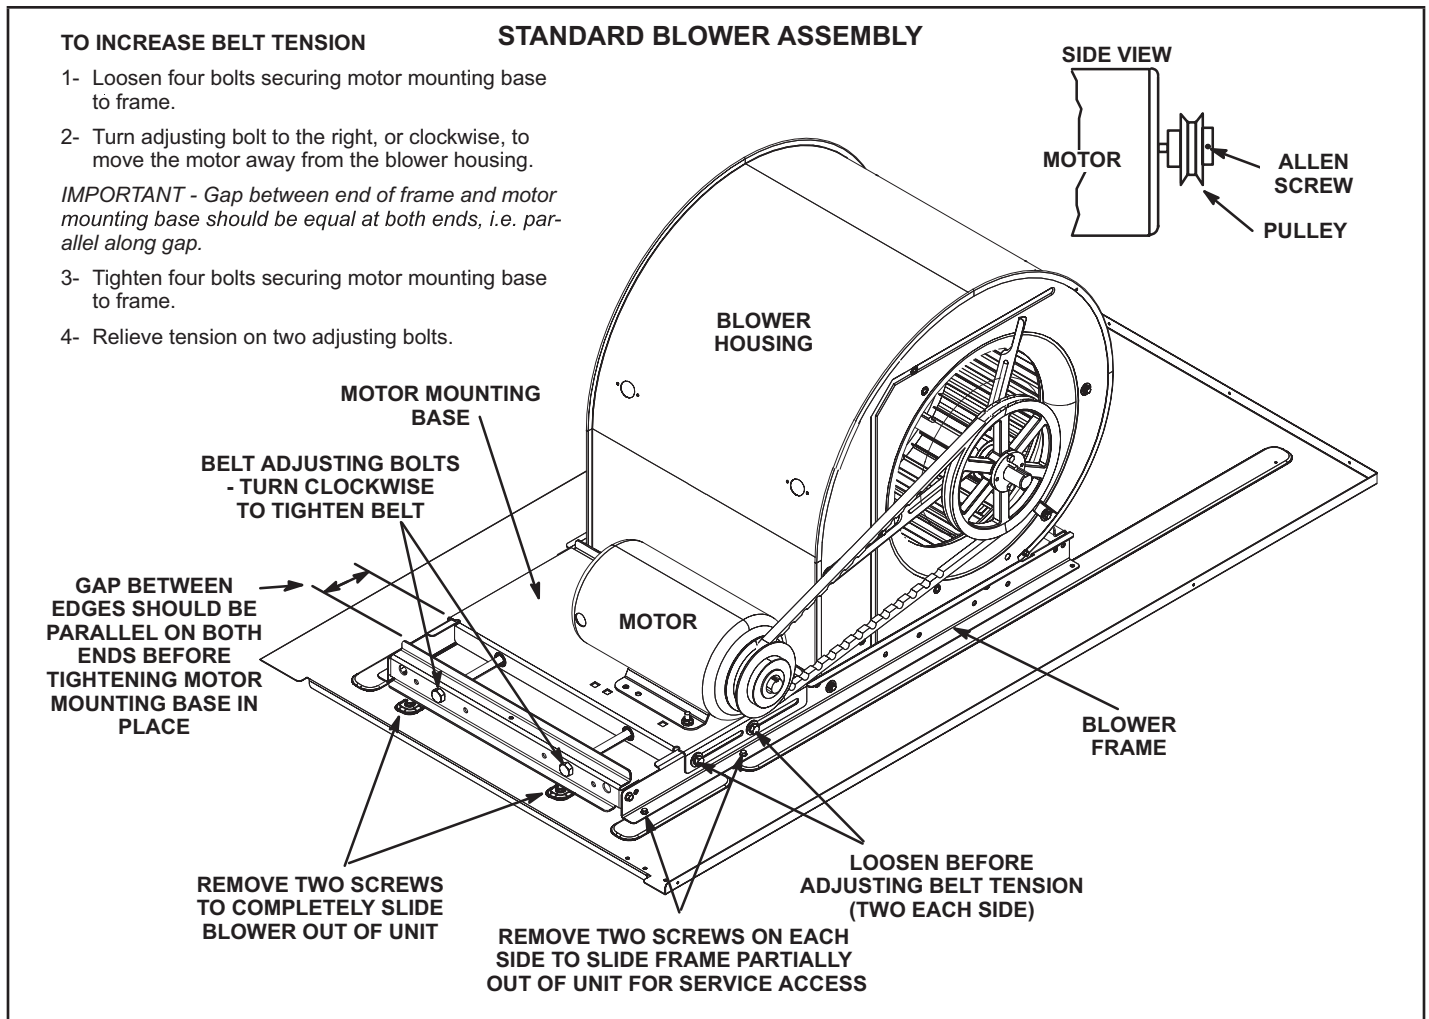

FIGURE 10
The blower assembly is secured to a sliding frame which allows the blower motor to be pulled out of the unit. See FIGURE 10.
- 4 - The blower RPM can be adjusted at the motor pulley. Loosen Allen screw and turn adjustable pulley clockwise to increase CFM. Turn counterclockwise to decrease CFM. See FIGURE 10. Do not exceed minimum and maximum number of pulley turns as shown in TABLE 2.
- 1 - Loosen four bolts securing motor base to mounting frame. See FIGURE 10.